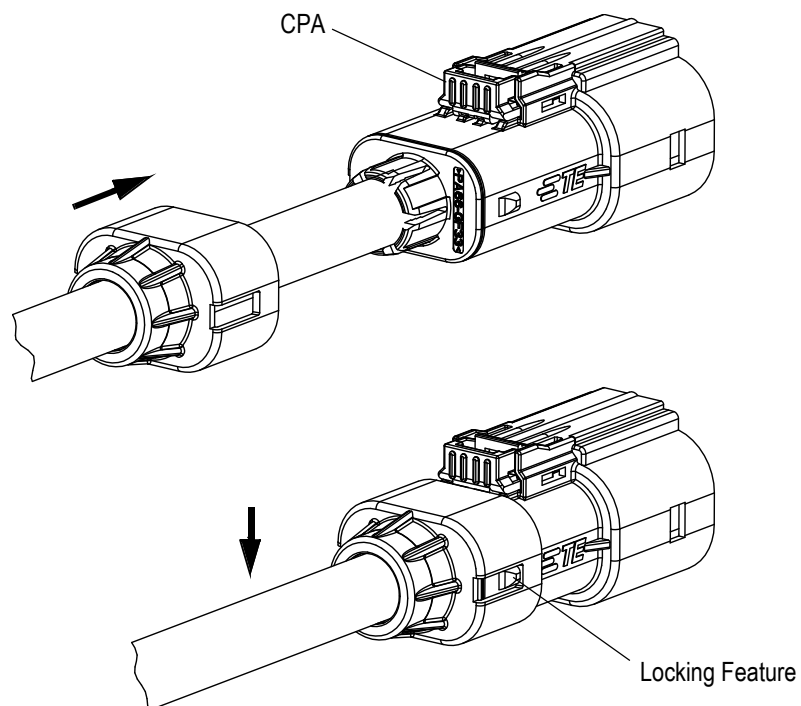

Figure 23
22. Slide the cable seal retainer forward on the cable and over the cable exit end of the connector assembly until it fully locks to the connector outer housing. Visually check to ensure that both locking features are engaged and the CPA is in the correct position as shown in Figure 23. Gently pull back on the cable seal retainer to check that it is fully locked in place.